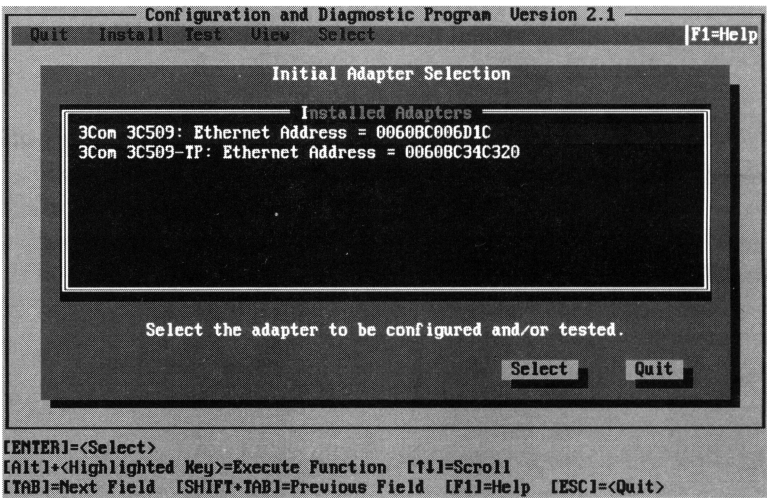

Figure 2-3. Main Window with Multiple Adapters
Select Configuration and Diagnostic from the next screen. When you have multiple EtherLink III adapters installed in your computer, the dialog box that appears is similar to the one shown in Figure 2-3.
7. **If you have multiple adapters installed, as shown in Figure 2-3, use the arrow keys to select the adapter and press [Enter].**